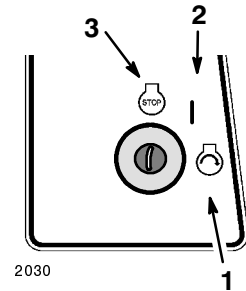

Figure 11
6. Turn the ignition key clockwise and hold it in the “START” position (Fig. 11). When the engine starts, release the key.
2. Turn the ignition key to “OFF” (Fig. 11).